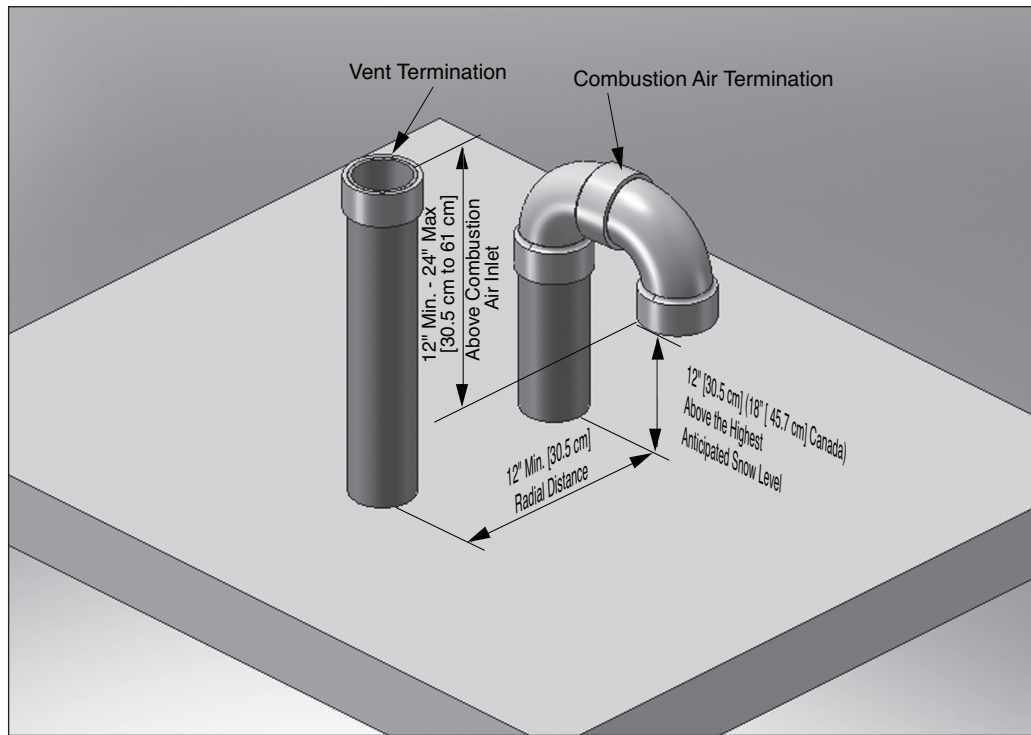

Fig. 1 - Direct Vent - Vertical Termination of Vent and Combustion Air Piping.
2. The combustion air piping must terminate in an upside down "U" shape fashion using two 90° elbows, as shown in *Fig. 1 on page 12*. The termination must be located 12 in. [30.5 cm] (18 in. [46 cm] Canada) above the highest anticipated snow level.
3. The vent piping must terminate vertically with a coupling to accept the bird screen and must be located 12 in. to 24 in. [30.5 cm to 61 cm] above the combustion air inlet as shown in *Fig. 1 on page 12*.
4. The vent and combustion air terminations must be located at a radial distance of 12 in. to 24 in. [30.5 cm to 61 cm] from centerline of vent termination to centerline of air termination as shown in *Fig. 1 on page 12*.
3. Locate the vent and combustion air pipe penetrations to provide clearances as described in *Fig. 1 on page 12*.
2. The combustion air piping must terminate in an upside down "U" shape fashion using two 90° elbows as shown in *Fig. 1 on page 12*.
3. The vent piping must terminate vertically with a coupling as shown in *Fig. 1 on page 12*.
**Do not extend the vent pipe above the roof beyond the dimensions shown in *Fig. 1 on page 12*. Extended exposure of the vent pipe could cause condensate to freeze and block the vent pipe, resulting in substantial property damage, serious injury, or death**